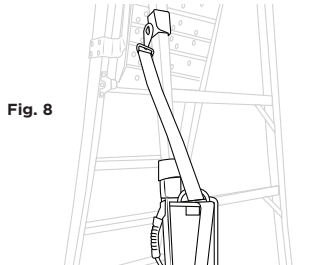

Fig. 8
4. Secure the shoulder strap, if in use, inside the pocket located in the pad to keep it out of the way [fig. 8]